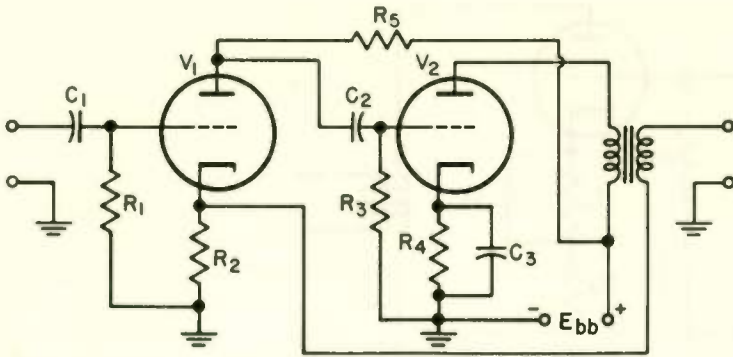

Fig. 37 Current feedback around two stages.
Figure 37 shows current feedback around a two-stage loop. The feedback voltage is developed across the unbypassed capacitor R_2 . Notice that R_2 is in series with the output signal, which is why the circuit is described as current feedback. The signal current output from both V_1 and V_2 flows through R_2 . However, because of amplification, the signal current in R_2 from V_2 is much greater than the signal current from V_1 , and therefore it produces most of the feedback voltage across R_2 . Hence, both stages are within the feedback loop.
2. The feedback path shown in Fig. 37 shows that the total current through resistor R_2 is composed of the current flowing through tube V_1 and the entire output (a) (voltage) (current). Thus the feedback voltage across R_2 is proportional to the (b) (output voltage) (output current) and the feedback is (c) _____ feedback.